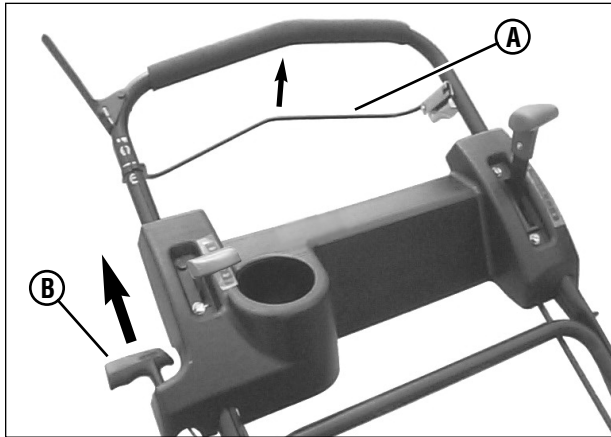

Figure 4: Starting the mower
3. Pull the blade control (**A, Figure 4**) against the handle.